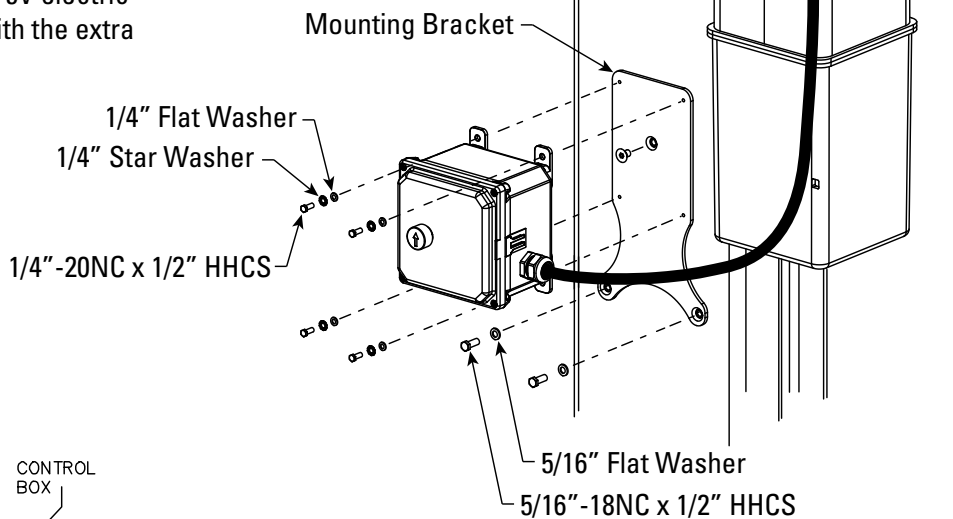

Fig. 16a
- Attach Mounting Bracket on column, as shown in Fig. 16a, using (1) 5/16"-18NC x 1/2" Socket Head Counter Sunk Machine Screw, (2) 5/16"-18NC x 1/2" HHCS, and (2) 5/16" Flat Washers.
- Attach Control Box to Bracket using (4) 1/4"-20NC x 1/2" HHCS, (4) 1/4" Flat Washers, and (4) 1/4" Star Washers.